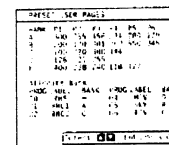

Fig. 50.
- 7 Select the programme position for which you have preset pages with Δ or ∇ - and press OK. (See Fig. 50)